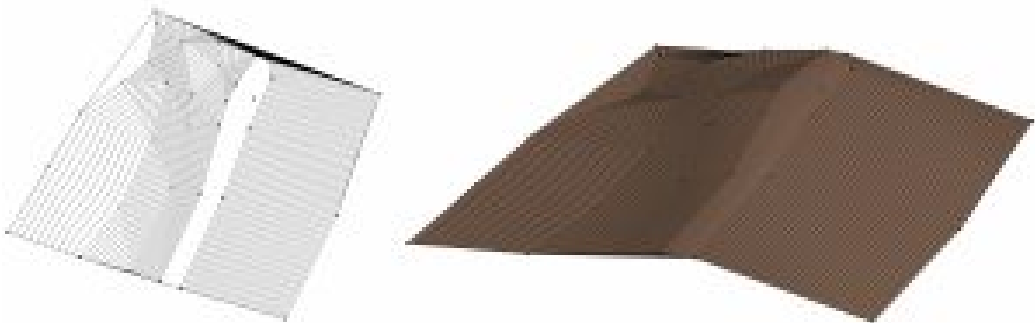

Figure 14.3 Toposurface created by placed points
6. To the right of the existing model click to place a nonlinear line similar to Figure 14.3